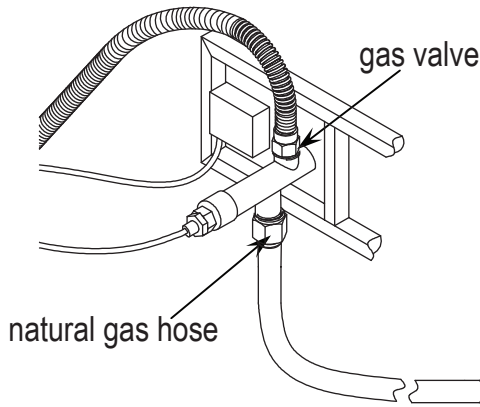
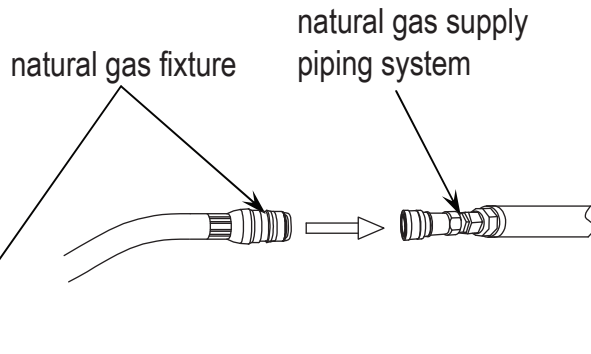

Figure 16
Figure 17
- Connect the natural gas hose with the gas valve by screwing clockwise tightly (see Figure 16). Plug the natural gas fixture into the natural gas supply piping system (see Figure 17).